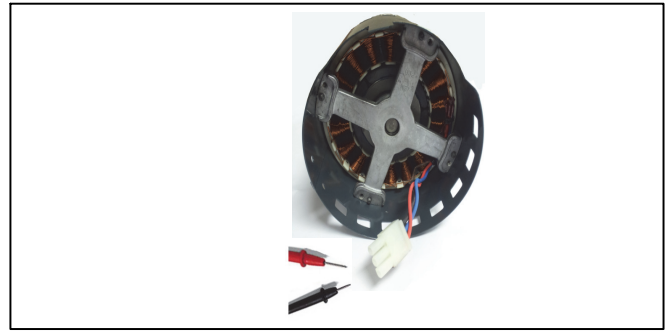

Figure 3. Motor Test
4. Check resistance between each of the three pins on the control module jack (see figure 3). Resistance between any two terminals should be greater than 100 K ohms. If resistance is less than 100 K ohms, replace motor control module.